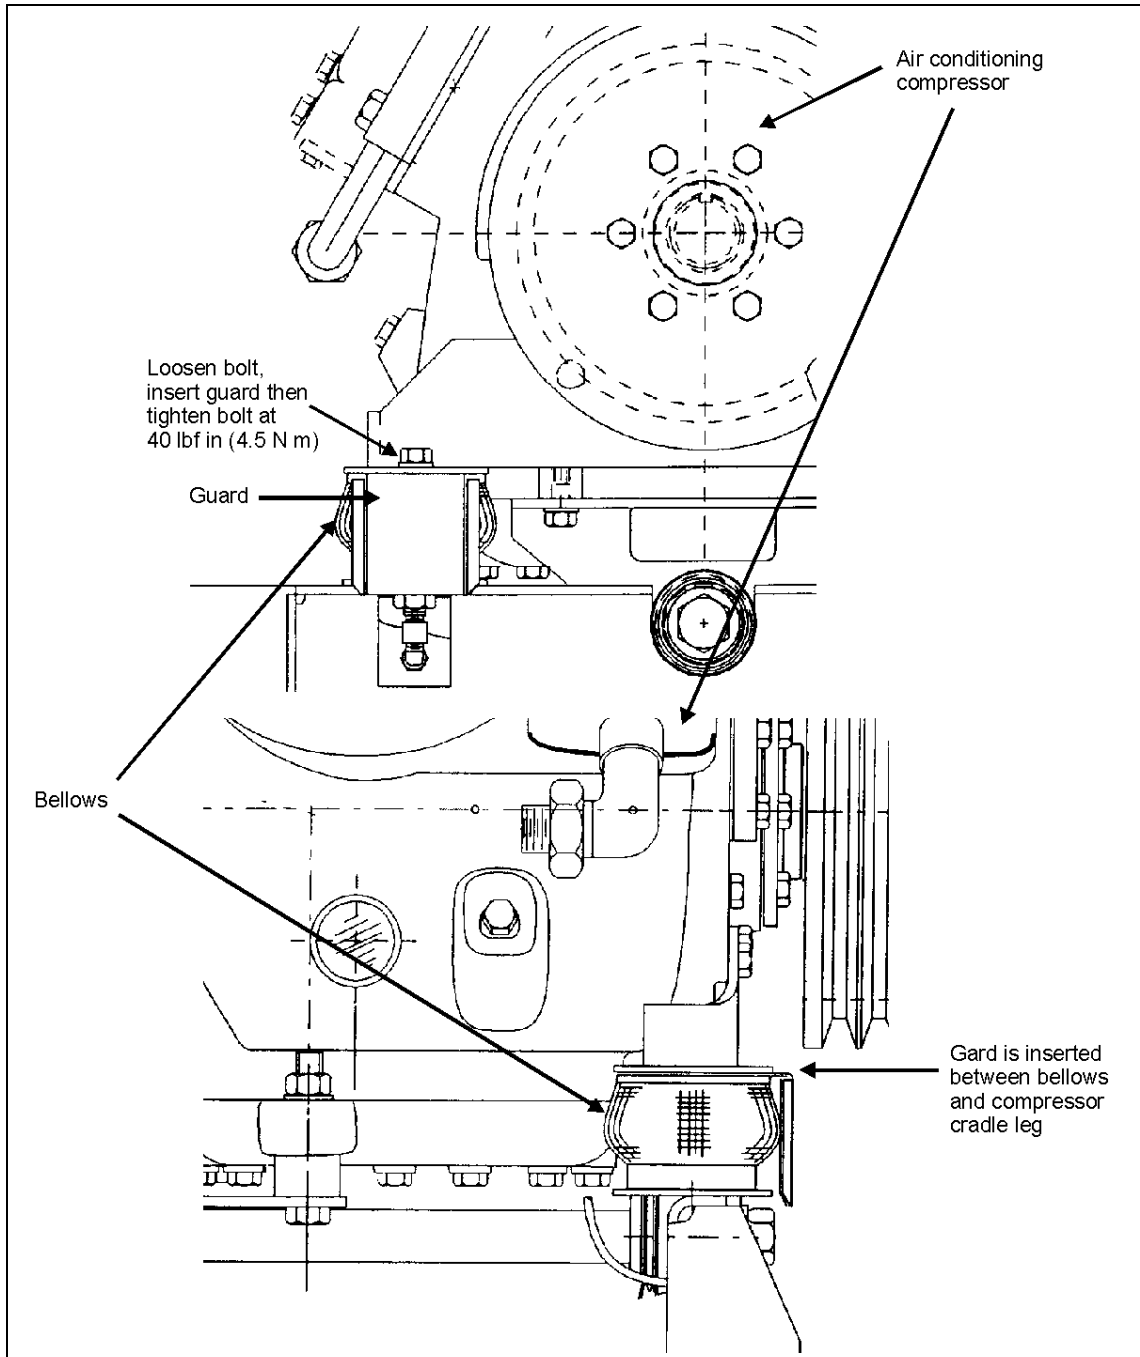

FIGURE 1: BELLOWS GUARD INSTALLATION
1. Loosen the upper bolt sufficiently to insert the bellows guard as shown in Figure 1. Make sure it is inserted completely.